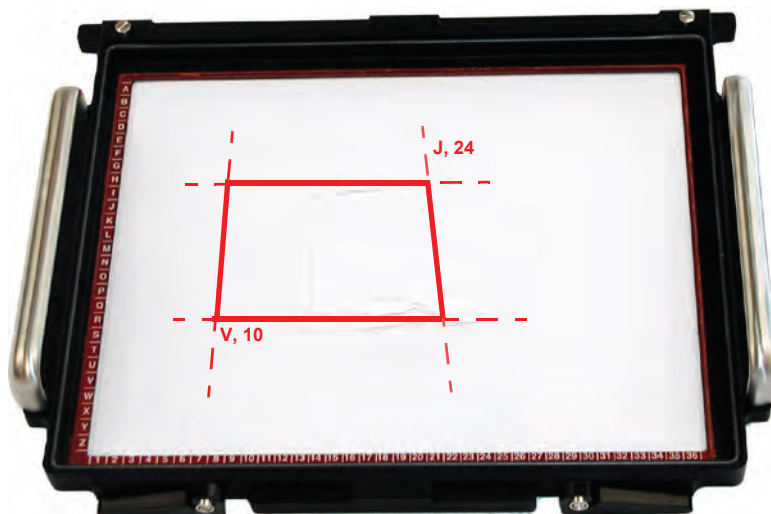

Fig 3-5. Marking gel position on a standard cassette.
- 3 Note the positions of the gel boundaries on the plate, See Fig 3-5. You will use this information to determine the area(s) to be scanned, see 3.3 Set Up a scan.